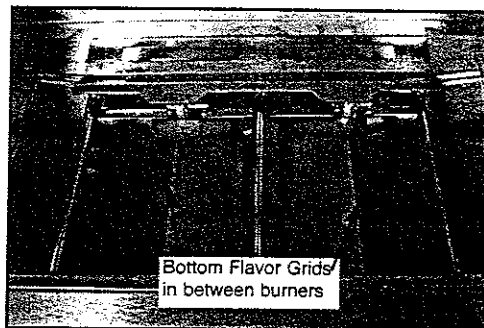

Fig. 3
1. Check to make sure the bottom Flavor Grids are correctly installed in the cutouts and around the ignitors, as they may have shifted during shipment. (See Fig. 3)